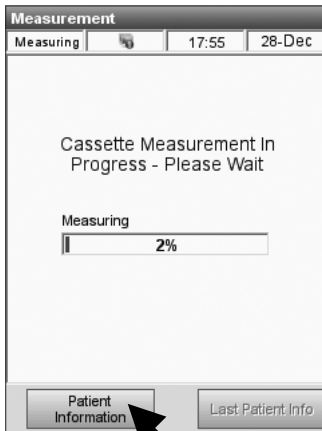

Fig. 5-22 Patient Information
- The sample will then be aspirated and measured (Fig. 5-22).
19. You can again enter patient information while measurement is in progress by pressing **<Patient Information>** (Fig. 5-22). Please follow the steps for patient data entry described under calibration step 12 on p. 5-10.